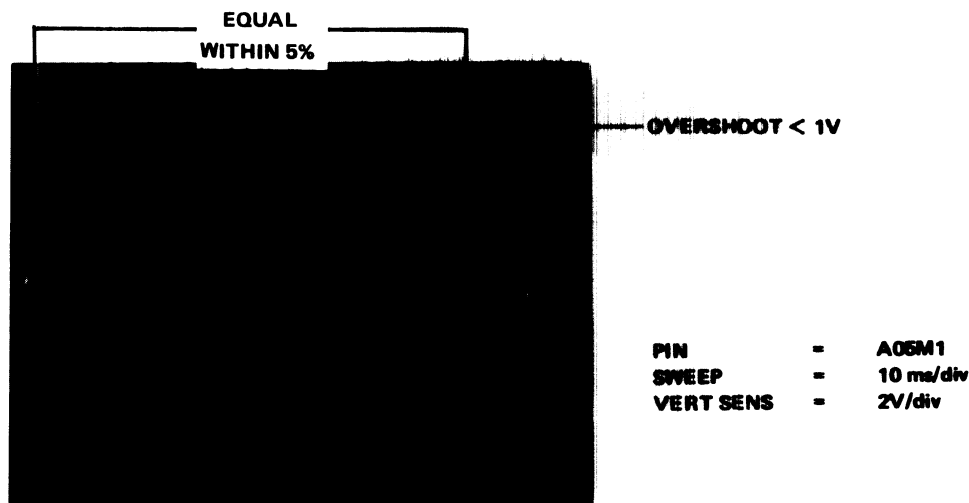

Figure 6-8 Full Stroke Position Waveform
- Set the scope vertical sensitivity to 2 V/div and observe A05M1 (SIN POSITION) for a scope display as illustrated in Figure 6-8. The waveform amplitudes at the start and end of the seek must be equal within 5% and the overshoot at the end of the seek must not exceed 1 V. If overshoot is excessive, recheck the Velocity Amplitude (VA) and the Acceleration (Positioner Current).